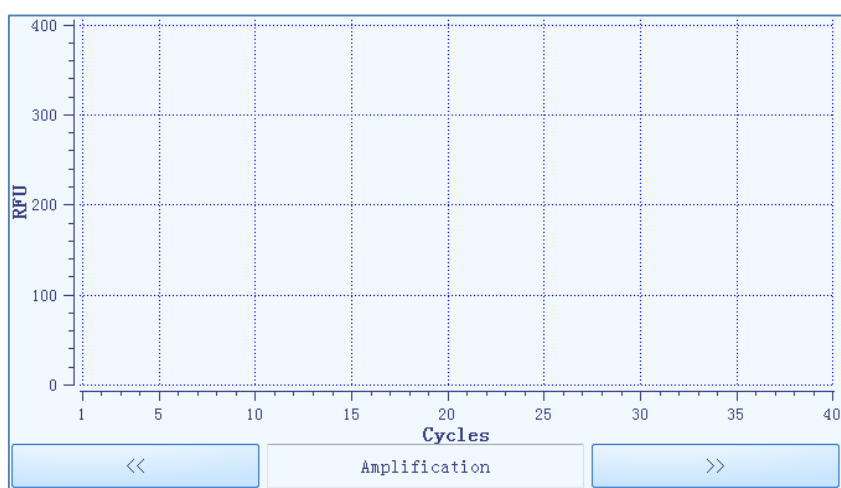

Figure E-5.1 Run Monitoring Diagram - Real-time Amplification Curve
- If user select the **Fluorescence** option in the run monitoring option bar, user can press  or  keys below the run monitoring diagram to choose the monitor content, which can be the real-time **Amplification** curve, **Melting** curve or fluorescence **Heat Map** of the current experiment, as shown in figure E-5.1.
- a. The run monitoring diagram will display the real-time **Amplification** curve of the current experiment by default, as shown in figure E-5.1.